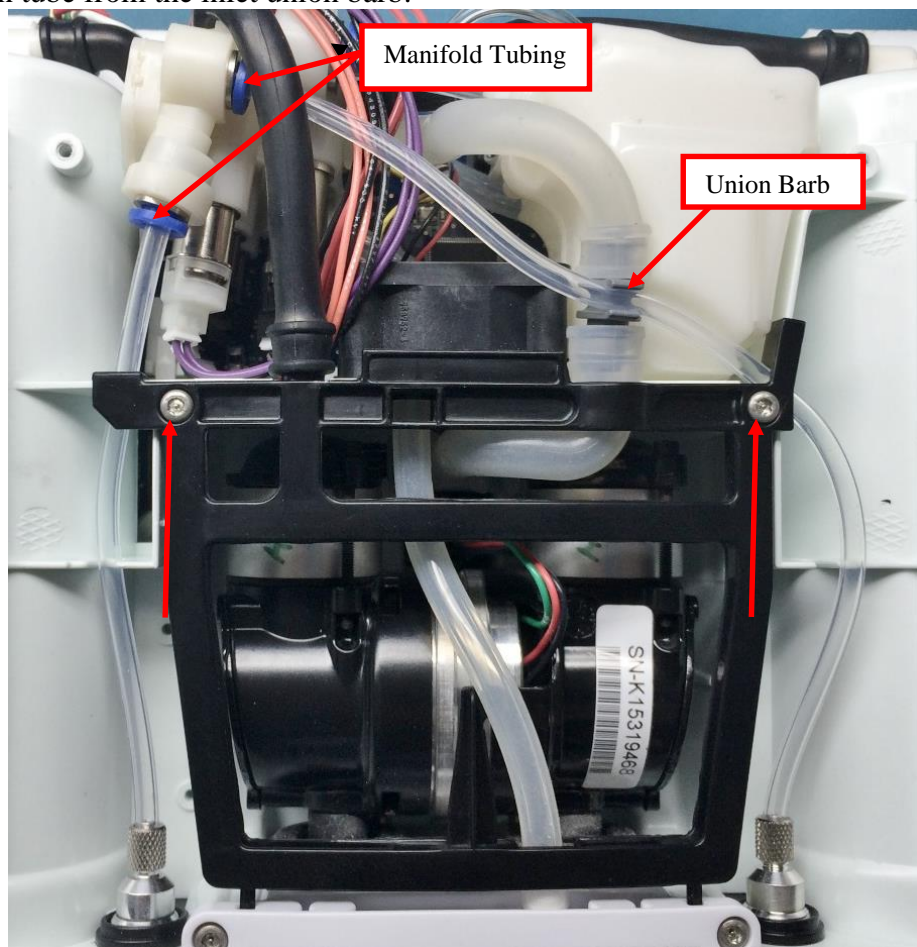

Figure 3: Tube bracket screws
1. With the device still on its back side, unscrew the two tube bracket screws (Figure 3), slide the pegs out of the filter body, and set aside the tube bracket.